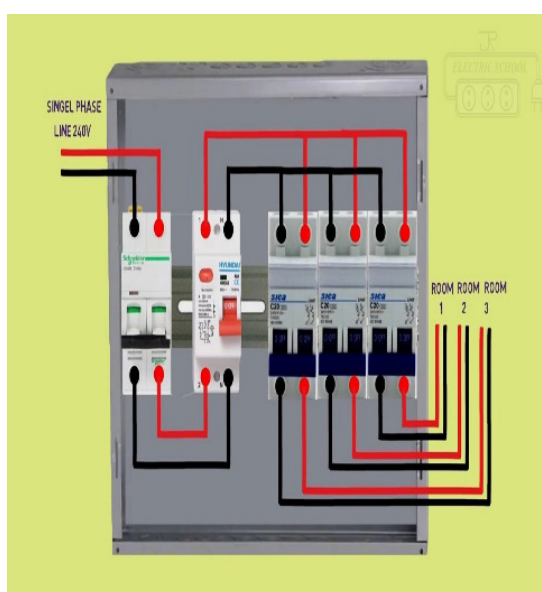

Figure 3.11.1: Picture of a consumer Unit with MCB (DP) RCCB and MCSs (SP)
The illustration in **Figure 3.11.1** is a single-phase home supply wiring diagram to a consumer unit. It typifies the:
12. Run the 16mm² cables to the consumer unit and terminate conforming to the given wiring diagram in **Figure 3.11.1**.